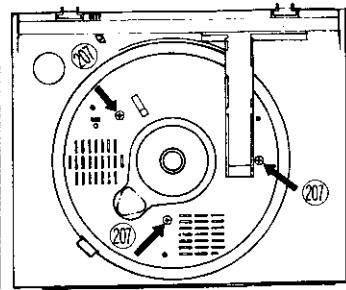

Figure 4
- 1-9. Remove the three Screws (207) which mount the Cabinet top (Fig. 4) and lift the Cabinet top.